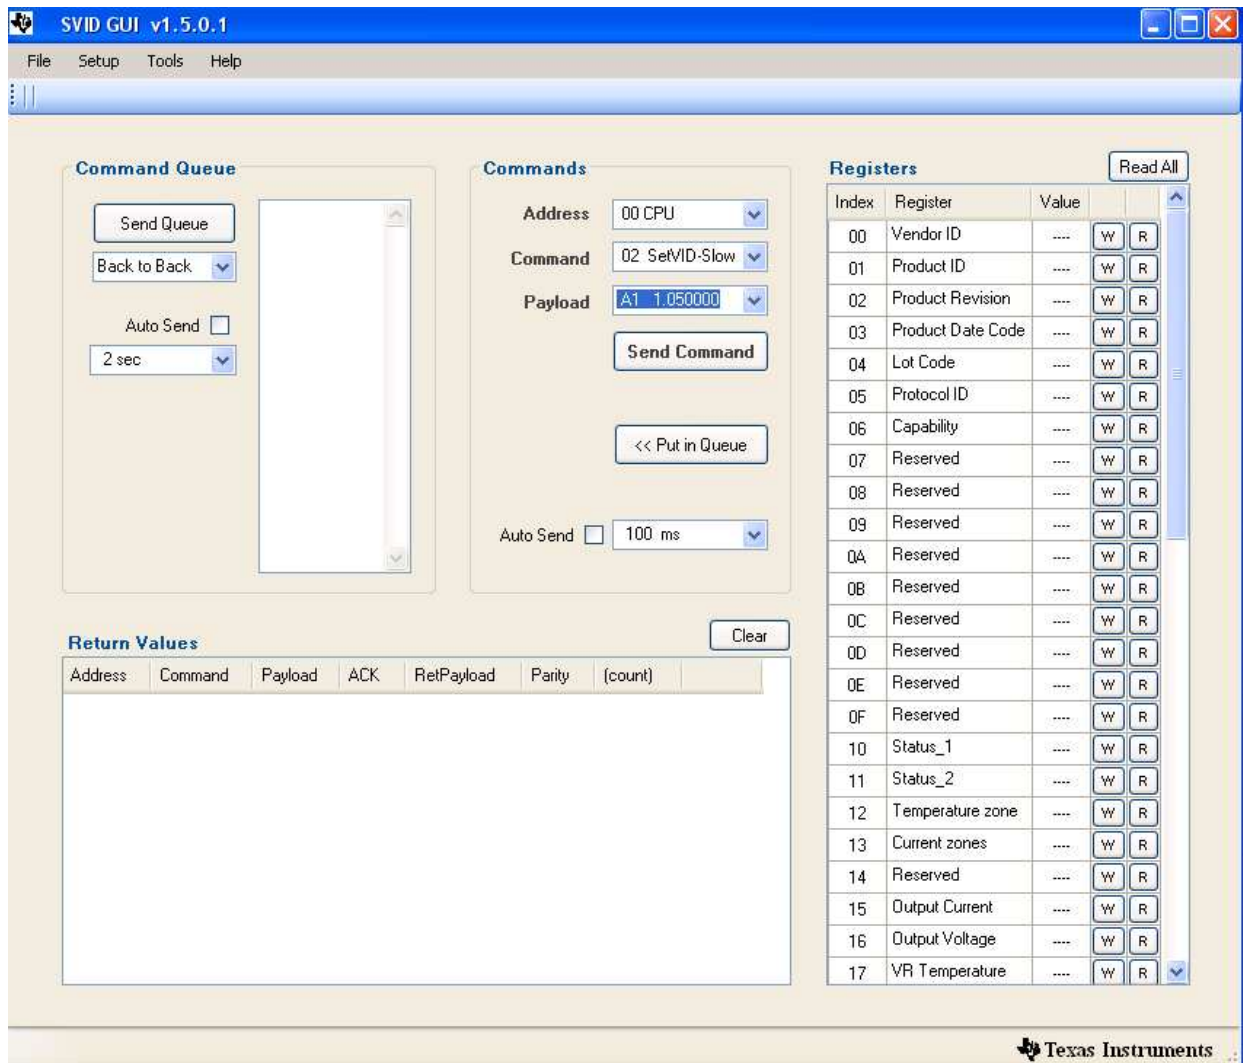

Figure 18. TPS59640EVM-751 CPU GUI Setup Window
10. Double-click the TI-SVID-GUI\_1\_5\_0\_1.exe to launch the GUI program. The GUI window shown in Figure 18 appears.
13. Click *send Command*, and the CPU CPGOOD LED lights up. See the GUI window as shown in Figure 18.